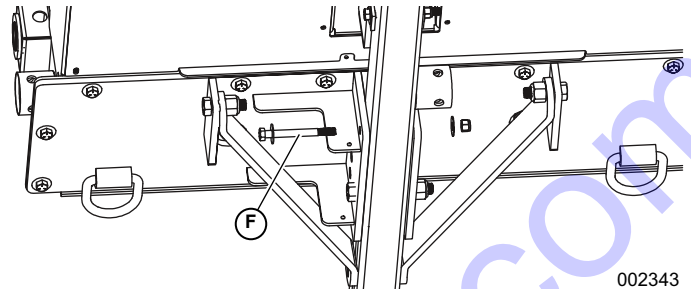

Figure 2-10. Remove Upper Bolt, Nut, and Washer
6. See **Figure 2-10**. Remove the upper bolt, nut, and washers (**F**) to allow the tongue to pivot.